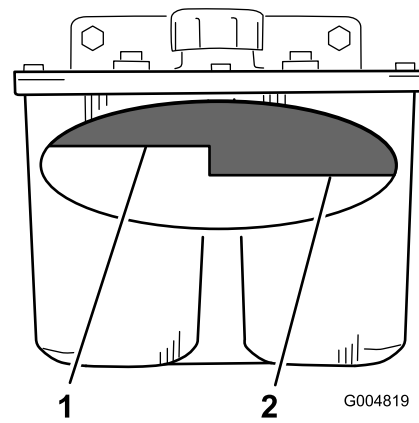

Figure 74
2. Clean the area around filler neck of hydraulic tank (Figure 74).
3. Remove the cap from the filler neck. Look inside to check if there is fluid in the reservoir (Figure 74).
Note: The fluid level should be to the top of the hot level of the baffle, when the fluid is hot (Figure 74).